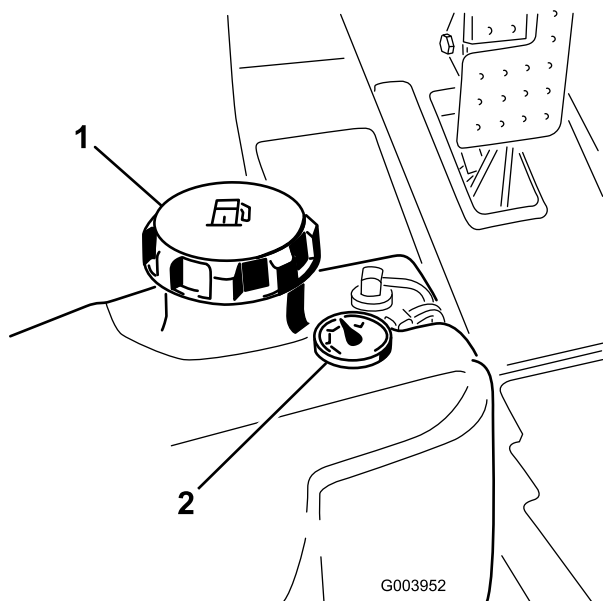

Figure 33
- Remove cap from the fuel tank (Figure 33).